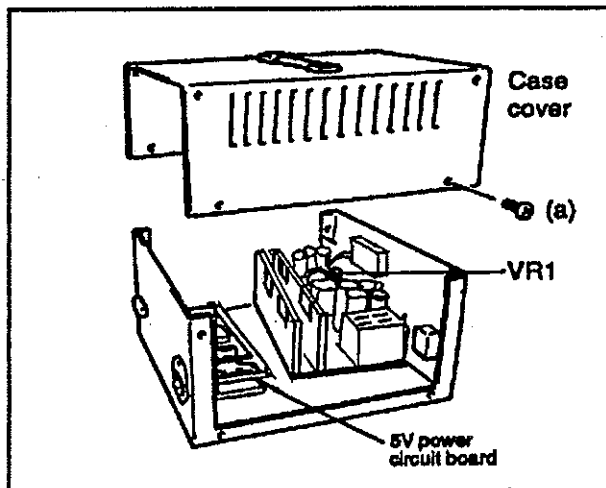

FIG.3
- (1) Remove eight retaining screws (a) and then the case cover (Fig.3).
- (2) Turn power on.
- (3) If the 5V power supply differs from that specified, replace the circuit board (Refer to "4-6 5V power supply" on page 54).
- (4) If the 24V power supply (⑤~⑪) differs from that specified, adjust power using VR1 (Fig.3).
- (5) Turn power off and mount the case cover.